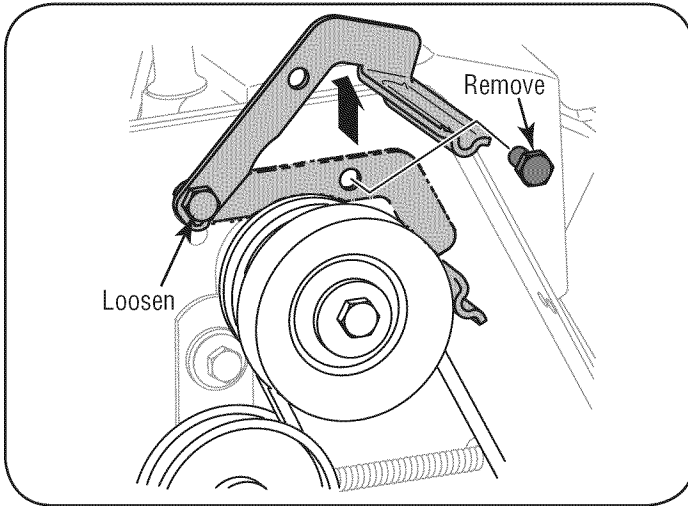

Figure 30
- Loosen the bolt shown in Figure 30 securing the belt keeper bracket and remove the other bolt. Push the belt keeper and bracket up off the engine pulley.